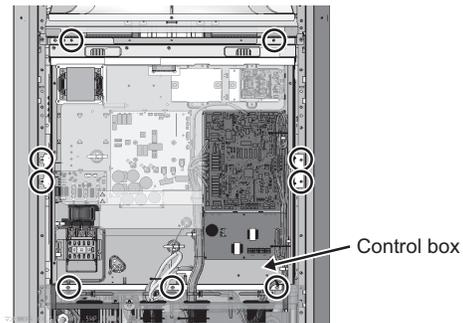

Fig. 3
(3) Remove the control box. (Nine screws: Fig. 3)